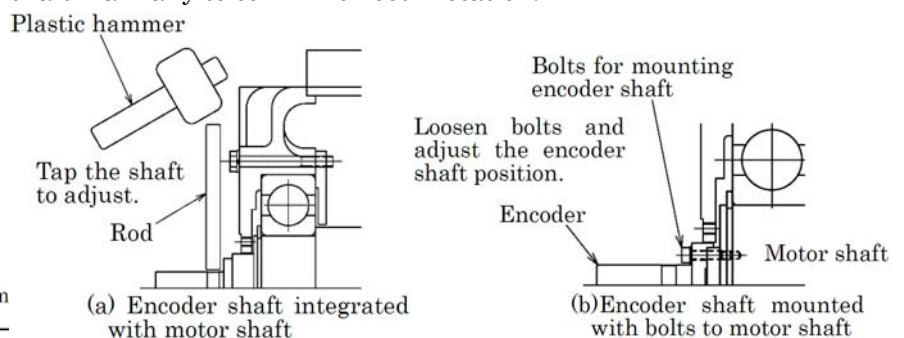

Fig.17 Shaft runout correction method
- (a) If the encoder mounting shaft is integral with the motor shaft (Refer to Fig.17 (a)), adjust by tapping the shaft end with a plastic hammer (Less than 2LB) and a rod of soft material that does not damage the shaft. (For example, DURACON) Be careful as the impact may cause an abnormality if the shaft is subjected to an extremely strong impact.
- (b) If the encoder mounting shaft is fixed to the motor shaft with bolts (Refer to Fig.17 (b)), loosen its bolts and adjust the mounting position. Be careful not to forget to tighten the bolt tightly at the end.
- (13) After assembling, rotate the shaft manually to confirm smooth rotation.